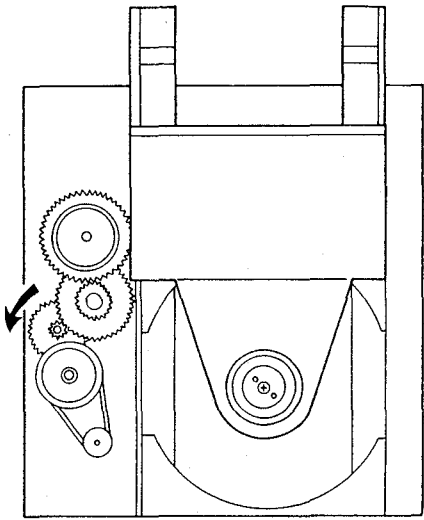

Figure 13
2. Rotate mecha gear, and disc tray will come out. (See Figure 13)